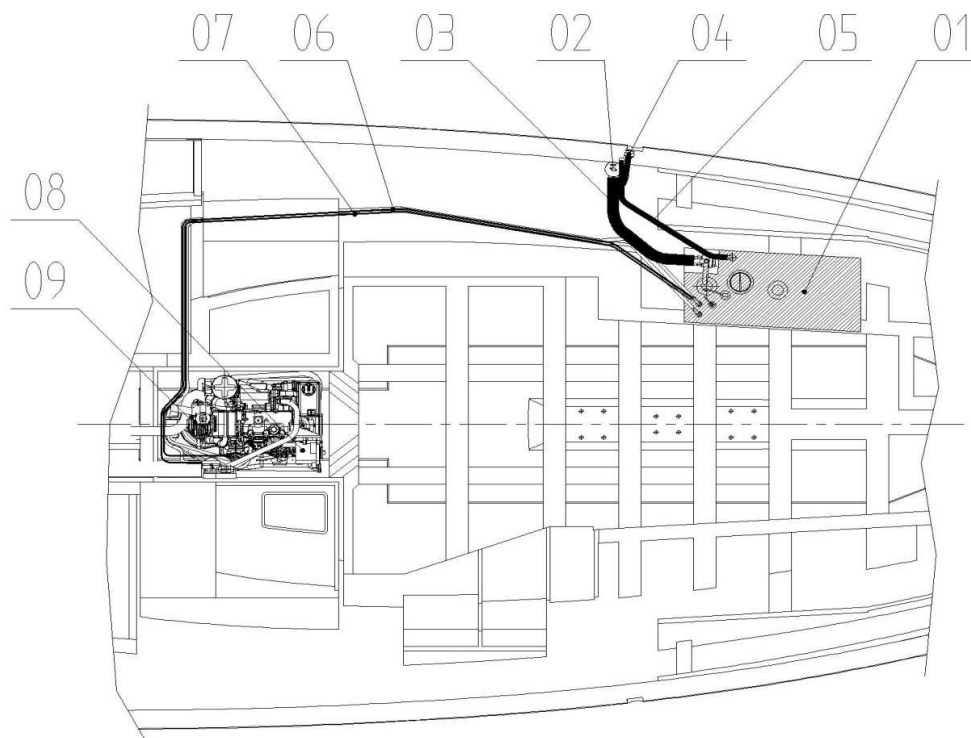

Figure 9
The fuel required for engine operation is stored in a fuel tank. The fuel tank has a capacity of 75 litres. The fuel tank is stowed under the port side saloon seat (see Fig. 9). Fuel tank is accessed from the saloon by lifting the settee panels.
- Fill the fuel tank with diesel via the deck filler. The position of the deck filler is shown in Fig.9